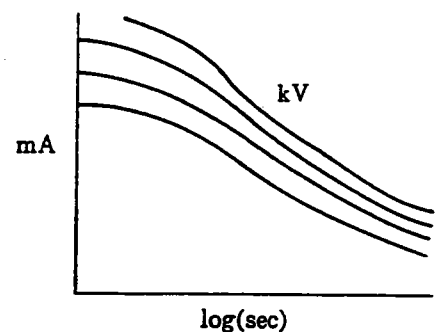
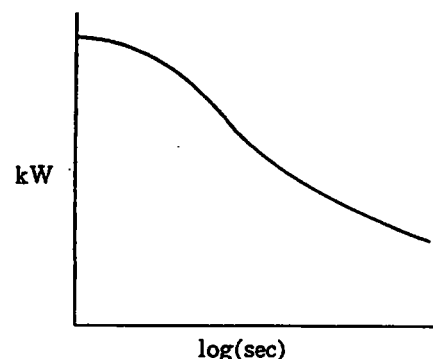
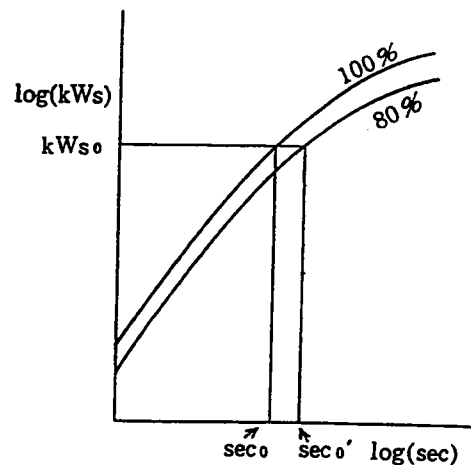

Fig. 2.4.1
Fig. 2.4.2
Fig. 2.4.3
(1) 2-control method
- (a) The short-time rating of X-ray tube is generally shown in Fig. 2.4.1. This is the 100% rating. By eliminating the parameter of kV, this figure can be modified to Fig. 2.4.2 where a single curve is shown with a vertical axis of kW. The figure means that a permissible power is determined with a given exposure time.
Fig.2.4.2 can be further modified to Fig.2.4.3 that has a vertical axis of kW. Multiplying a sec by the corresponding kW in Fig.2.4.2 derives this figure.
mAs₀, the product of the two gives kW_{so}. The sec₀ corresponding to the kW_{so} on the vertical axis in Fig. 2.4.3 means the permissible shortest radiographic exposure time for a given kV₀ × mAs₀ (= kW_{so}). Further, dividing the given mAs₀ by the sec₀ gives mAs₀ / sec₀ = mA₀, which is the maximum permissible tube current.
- (c) As described above, the 2-control method decomposes a given radiographic condition (kV, mAs) into the maximum permissible tube current and the shortest radiographic time. Any combination of kV and mAs hold the same relation as described above and a tube is always used under a constant load factor. In the above example the load factor is assumed to be always 100%. In actual cases, an operation method specifies its load factor. For example, if the specified load factor is 80%, the derived time is sec'₀ as shown in Fig.2.4.3, which is longer than that for the load factor of 100%.
- (d) In the 2-control method, the X-ray tube rating is stored in the form of Fig.2.4.3 and decomposed into the shortest time sec and the maximum current mA in considering the specified load factor.
- (2) 3-control method
In the 3-control method, the short-time rating of X-ray tube is also stored in the same form of Fig.2.4.3 as in the 2-control method. A product of three values for a specified radiographic condition, kV₀, mA₀, and sec₀, gives a value kW_{so}, and the kW_{so} derives the shortest radiographic time sec₁ from Fig.2.4.3. If the derived time sec₁ is shorter than the specified time sec₀, the radiographic operation is possible under the specified condition. That is: